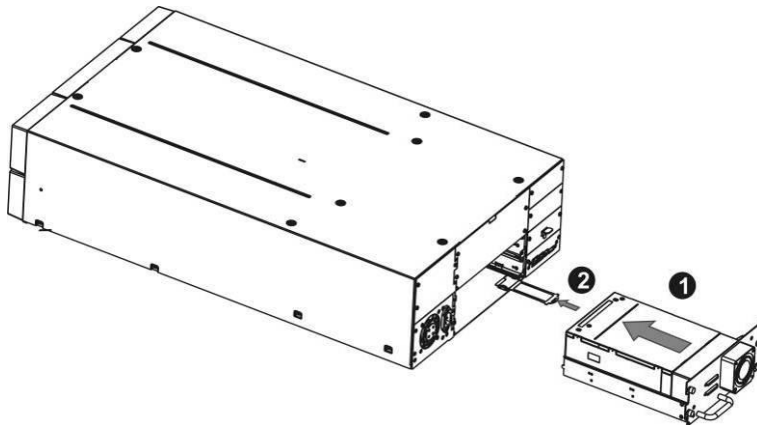

Figure 33 Install a tape drive (4U)
6. Insert the tape drive into the drive bay, and align the connectors on the library while supporting the drive, see **Figure 33, Step 1**.
8. Slightly push the pull-out tab for the product ID label back into library, see **Figure 33, Step 2**.